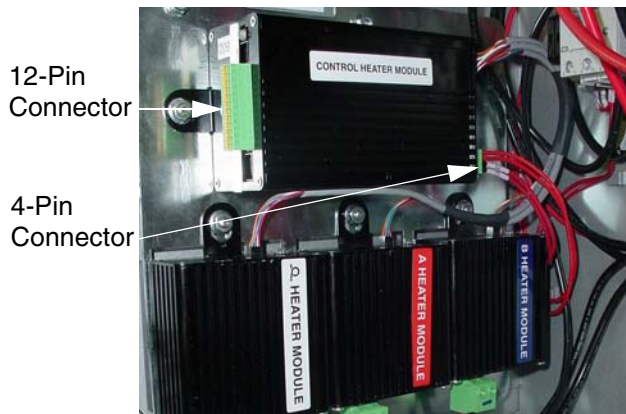

FIG. 20
1. Plug 4-pin green connector of wire harness into heater control module. See FIG. 20